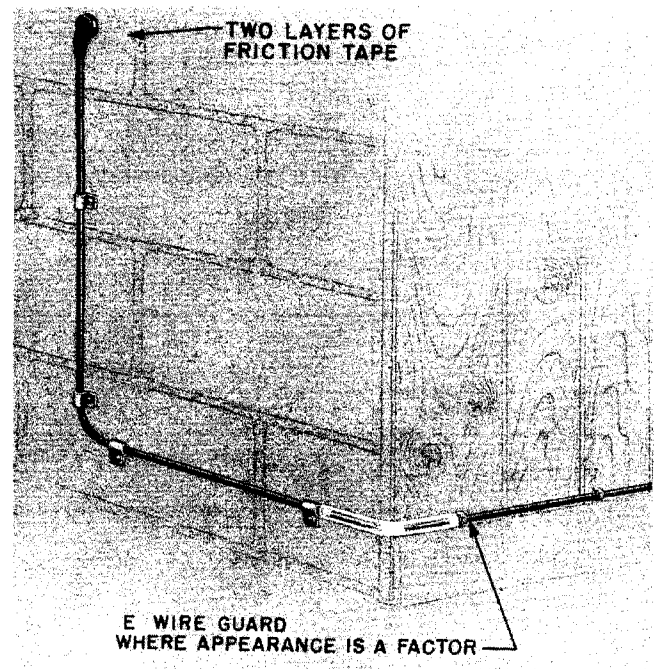

Fig. 4 – Use of Tape or E Wire Guard
- P or S wire guard, plastic tube, or two layers of friction tape shall be used in all cases where telephone wiring is subject to abrasion or mechanical damage. E wire guard (plastic tubing) may be used in place of friction tape or P wire guard on station wiring within buildings where improved appearance is desired. (See Fig. 4.)